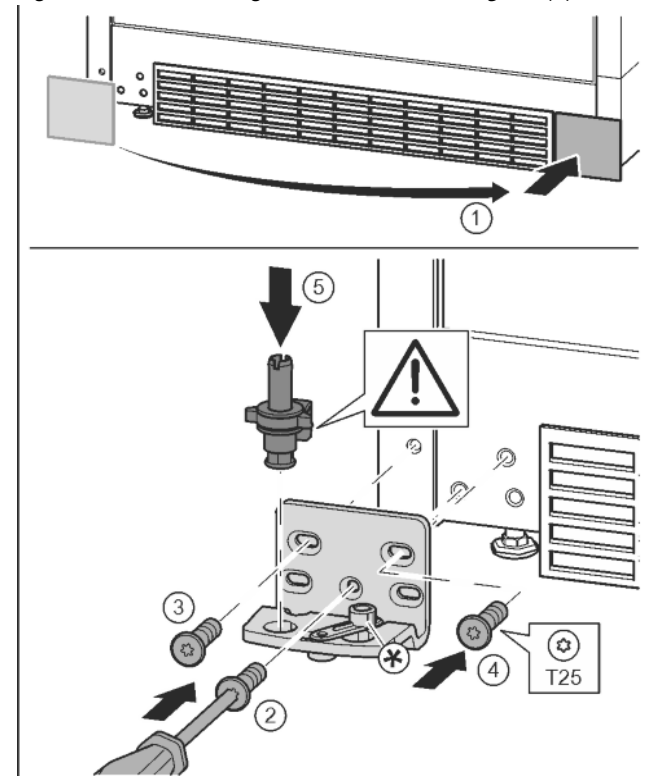

Fig. 16
- Remove the cover and fix it on the other side. Fig. 16 (1)
- Place the bearing bracket on the other side and screw in with the aid of a T25 screwdriver. Start with screw 2 at the bottom in the middle. Fig. 16 (2)
- Screw in screws 3 and 4. Fig. 16 (3, 4)
- Insert the bearing pin completely. Make sure that the catch mechanism is pointing to the rear. Fig. 16 (5)